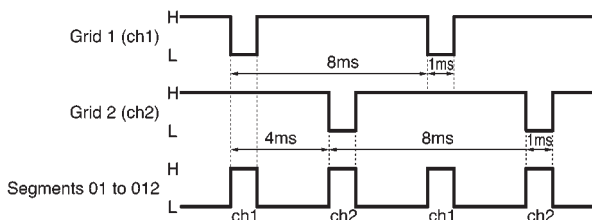

Fig. 6
(7) Grid and segment output timing chart. The grid and segment output timing is shown in Fig. 6.